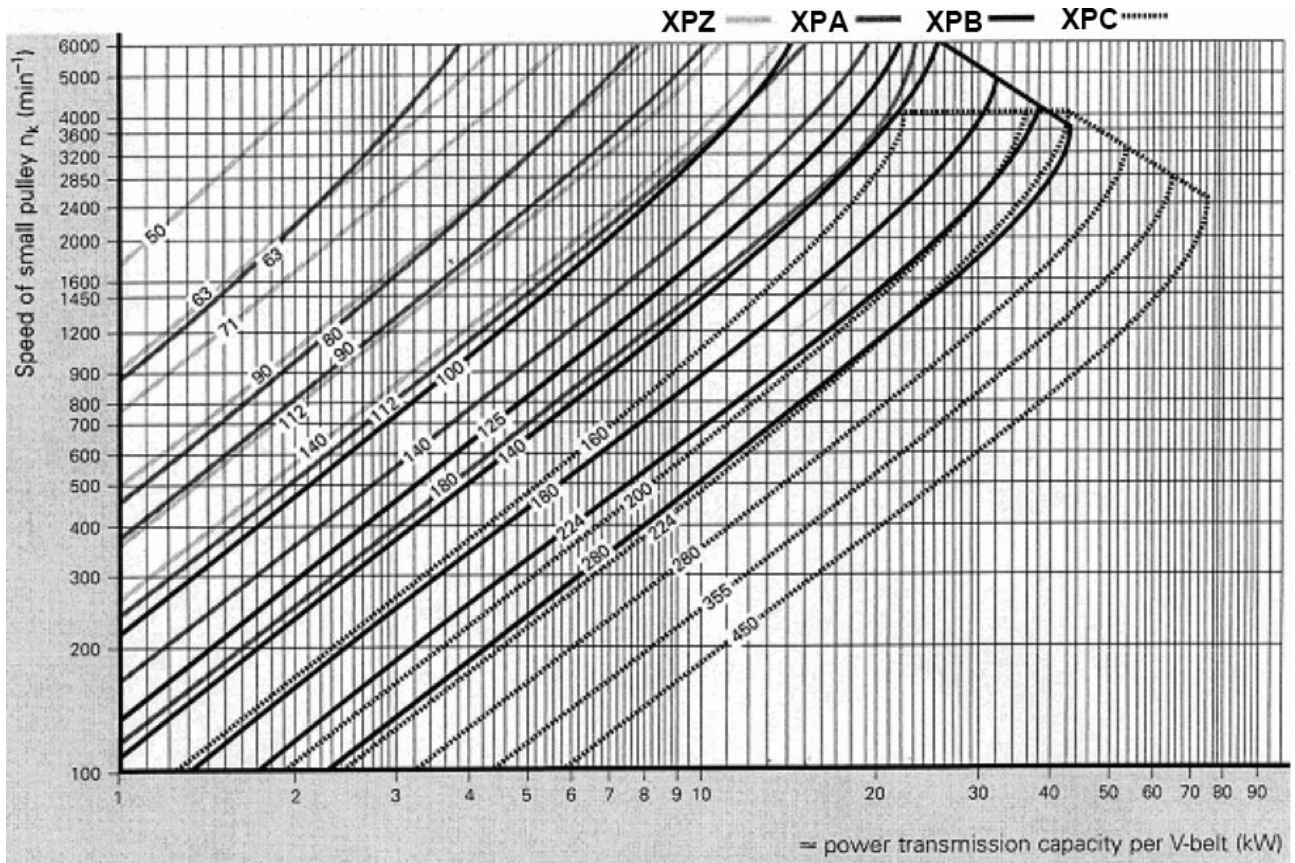
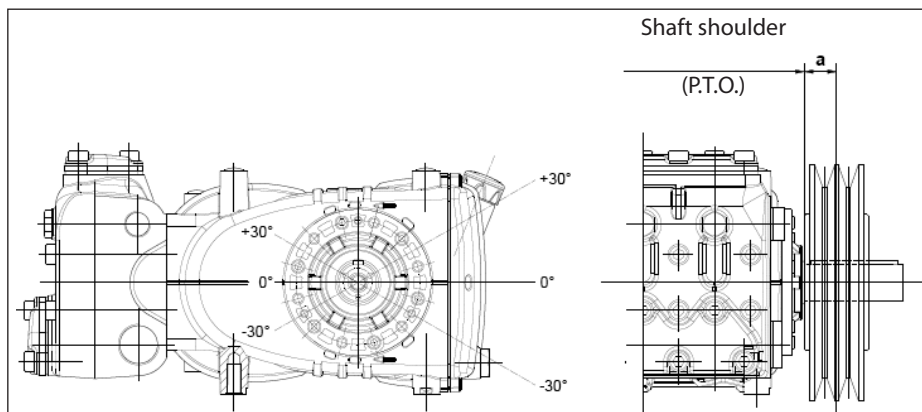

Fig. 7
Fig. 10
For this pump model, we recommend use of 4 XPB belts (16.5x13 serrated). Use an XPC profile only for long durations. Both the characteristics and transmissible power of each belt can be verified in the diagram in Fig. 7, in relation to the number of rpm normally declared by the manufacturer. Minimum duct pulley diameter (on pump shaft): ≥ 250 mm. The radial load on the shaft must not exceed 7500 N (value necessary for Layout definition). The transmission is considered adequate if the load is applied to a maximum distance $a=40$ mm from the shaft shoulder (P.T.O) as shown in Fig. 10.
- b) Use high performance belts – for example **XPB** instead of **SPB** – as a lower quantity of belts for the same transmitted power may be necessary and a consequent shorter resulting distance compared to the shaft shoulder (P.T.O) "a" of Fig. 10.